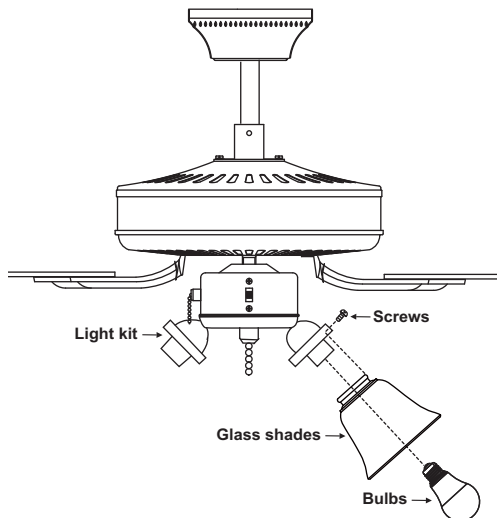

Figure 14
1. Insert the glass shades into the light kit with the thumb screws. (Fig. 14)
2. Install 4 x 9W LED bulbs (included). (Fig. 14)